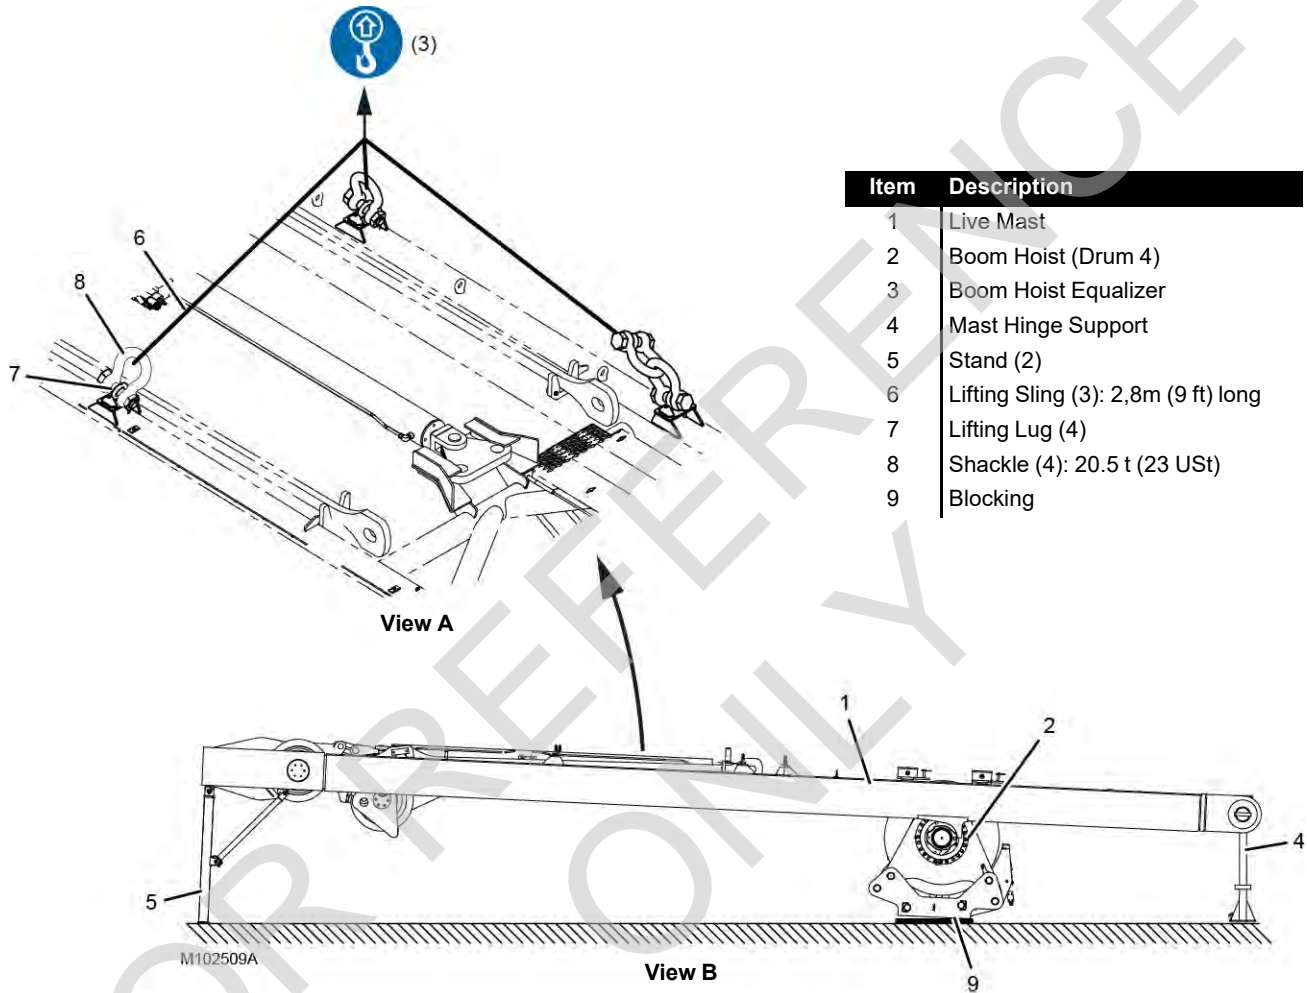

Figure 4-23
See Figure 4-23 for the following procedure.
An assist crane is required to handle, install, and remove the live mast. The assist crane must meet the specifications given in Figure 4-23.
- Lift only with the specified rigging at the locations shown in Figure 4-23.